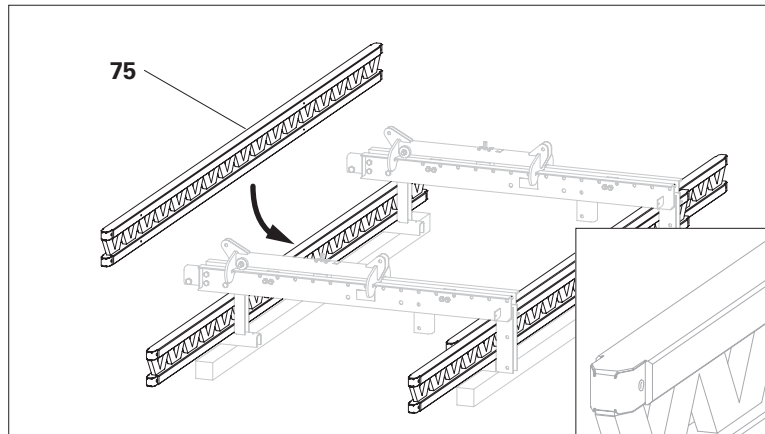

Fig. C2.02
3. Insert the platform beam into the crossbeam according to the plan and screw it tight with F.H. Bolts M8, see Section "B2 Planning the platforms" on page 38. (Fig. C2.02)